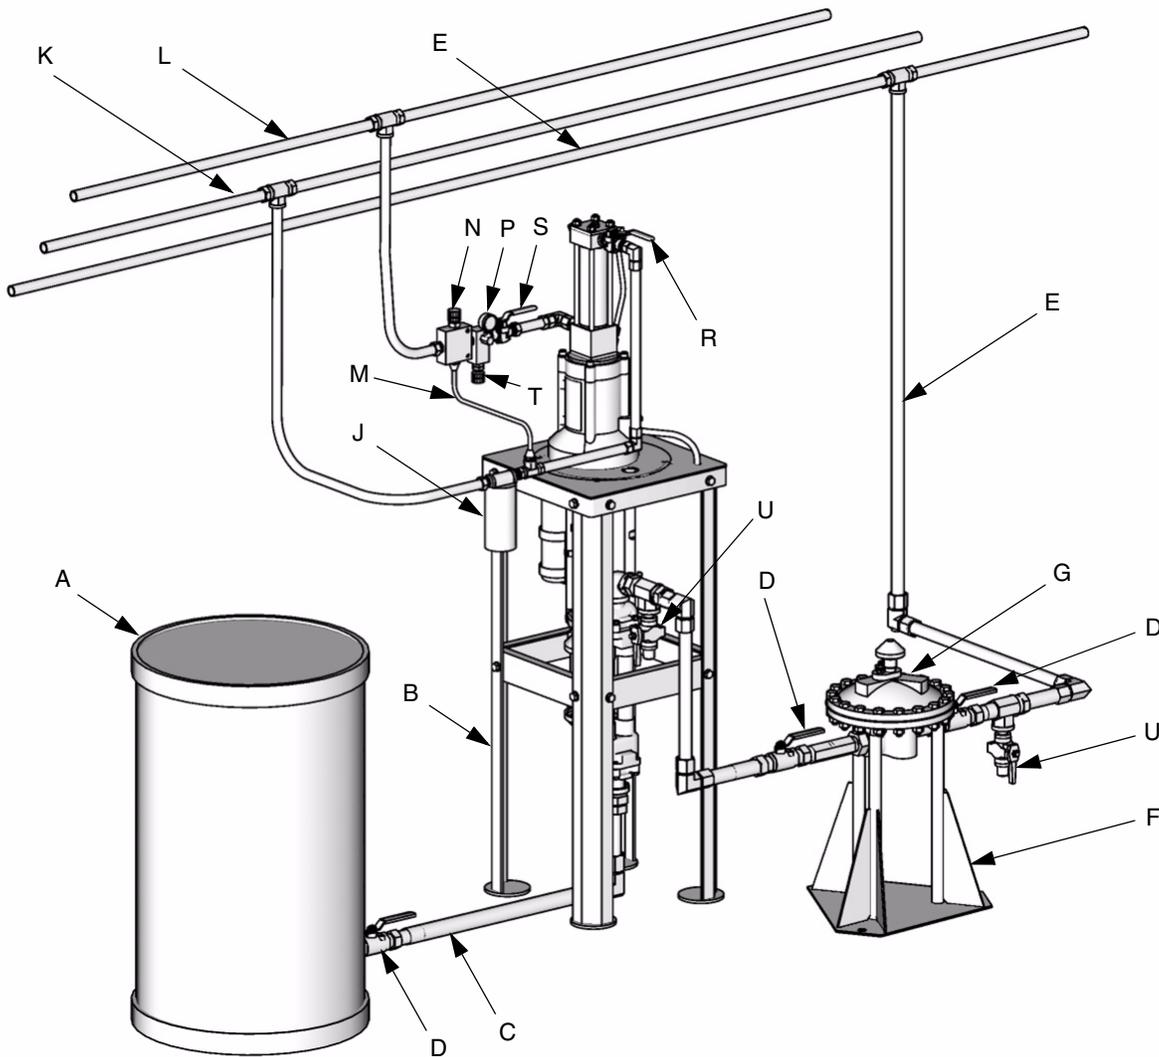

FIG. 3: Typical Installation
Install the following accessories in the order shown in FIG. 2 and FIG. 3, using adapters as necessary.
For typical installation, see FIG. 3 on page 10.
- **Supply line shutoff valve (S):** isolates the motor when servicing the system. See FIG. 3.
- **Hydraulic fluid pressure gauge (P):** monitors the hydraulic oil pressure to the motor to avoid over-pressurizing the motor or lower.
- **Pressure- and temperature-compensated flow control valve (T):** prevents the motor from running too fast, which can damage it.
- **Pressure reducing valve (N), which has a drain line (M) running to the return line (K):** controls the hydraulic pressure to the motor.